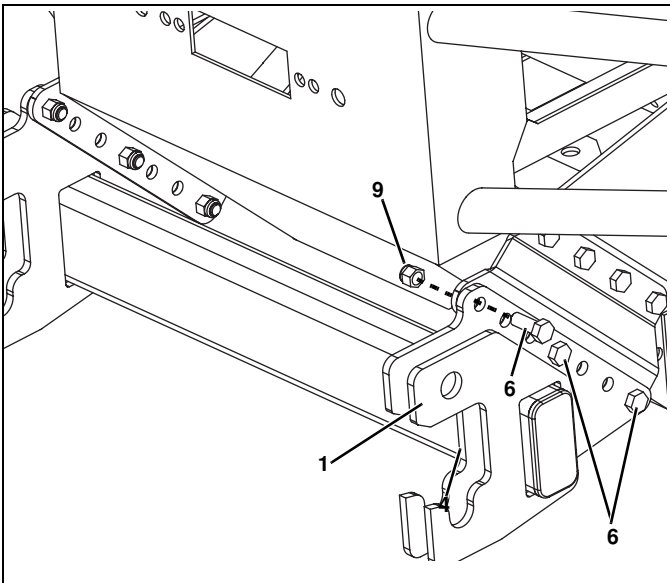

Figure 8
13. Attach the UTV Mount (#1) to the Driver and Passenger Mounting Brackets (#4 & 5) with (6) 3/8"-16 x 1" Cap Screws (#6) and (6) 3/8"-16 Nylock Nuts (#9). Three on each side. (See Figure 8.)